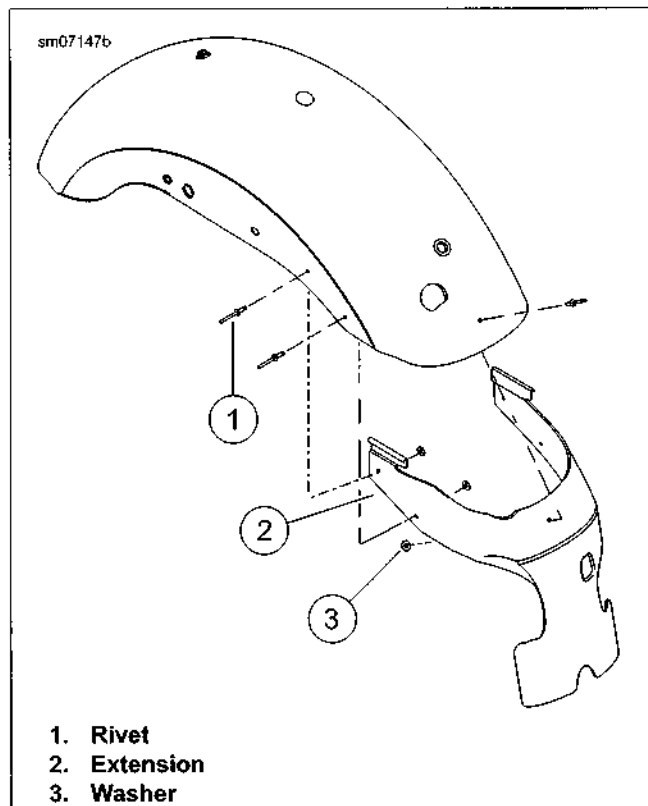

Figure 2-154. Fender Extension
1. See Figure 2-154. Drill out rivets (1) securing rear fender extension (2) to fender with a 1/4 drill bit.
2. Rivet fender extension to fender backed by a washer (3).